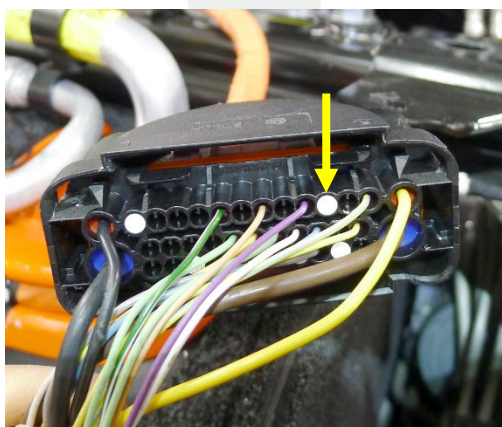

Figure 11
13. Use a pick to remove the plug from receptacle 28 of connector X151 (Figure 11).